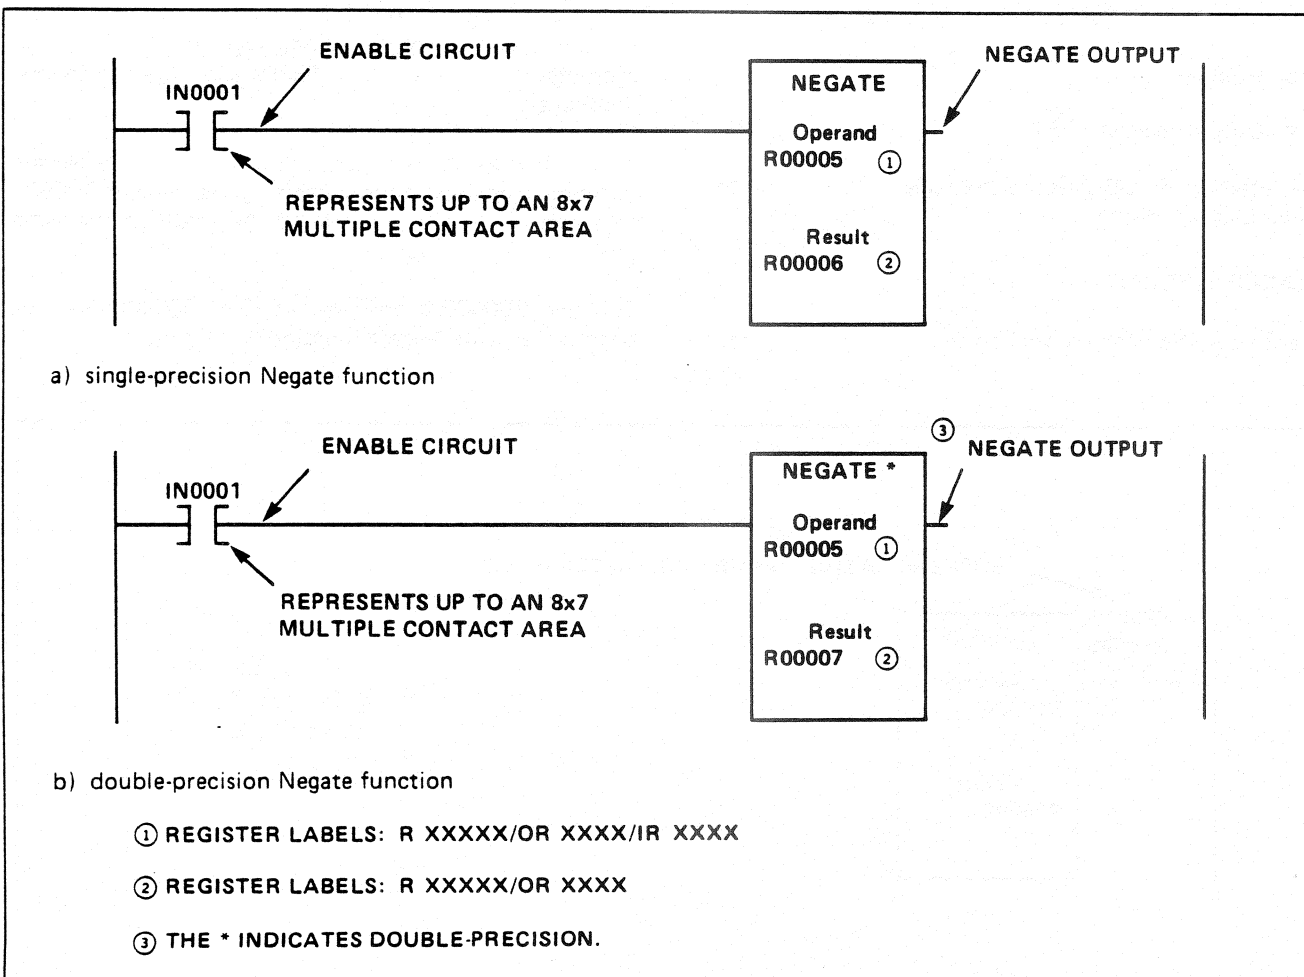

Figure NG-1. Negate Function Circuits (Typical)
The single-precision Negate (043) and double-precision Negate (044) programmable functions perform a 2's complement conversion on the binary data contained in a specified register. The data to be converted may be in true binary (positive) or 2's complement (negative) form. (See Figure NG-1.) The Operand Register specifies the register containing the value to be converted. During each ladder diagram scan, when the enable circuit conducts, the value contained in the Operand Register is converted and stored in the Result Register.